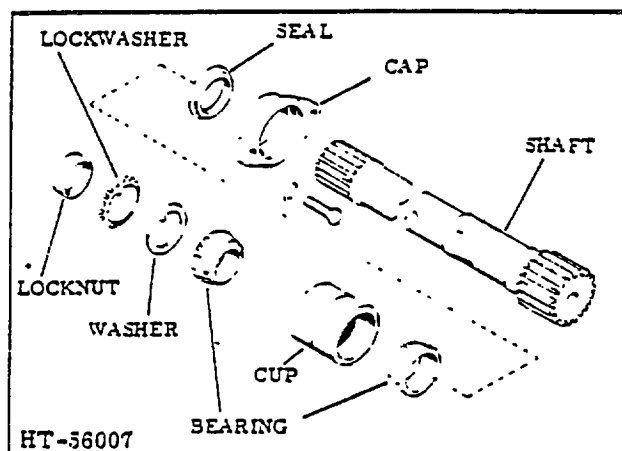

Figure 10. Jackshaft Assembly
- d. Straighten the locking prongs of the lockwasher (Figure 10) and remove locknut lockwasher.